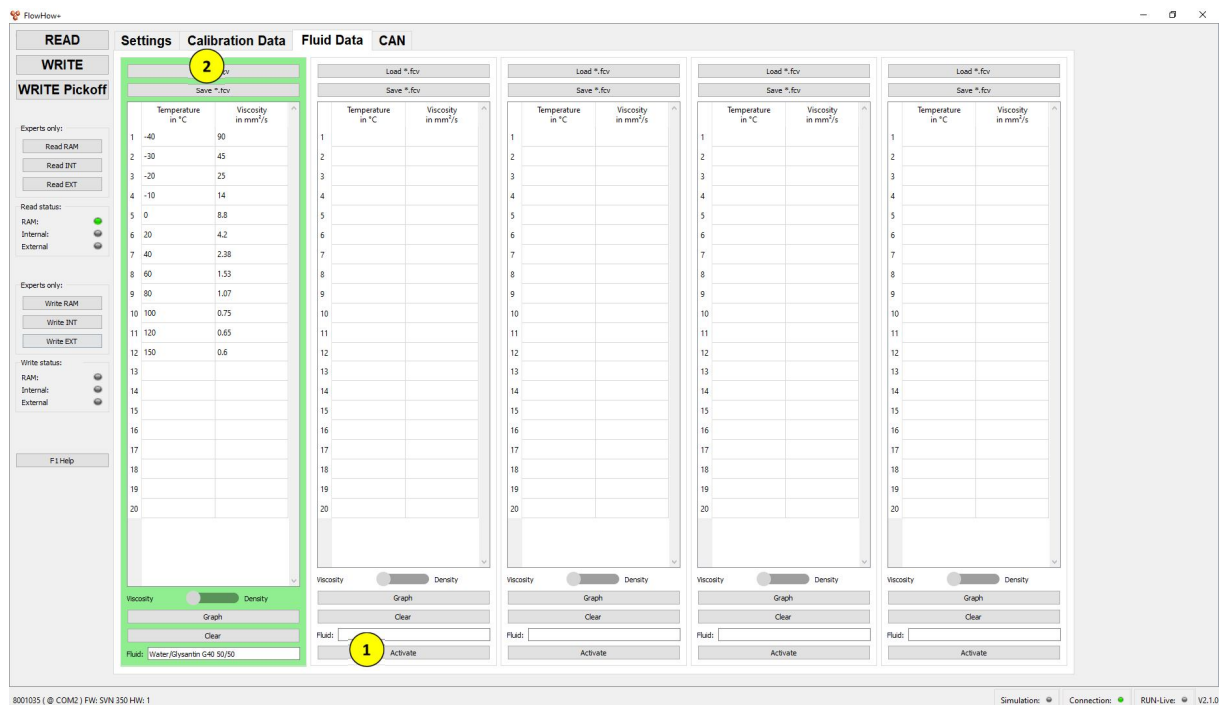

Fig. 14: Select data set and load fluid properties data
Navigation to the "Fluid Data" tab.. [Fig. 14]
Press "Activate" (1) to select desired table. [Fig. 14]
To load the data, press "Load \*.fcv" (2) and select the desired file. [Fig. 14]